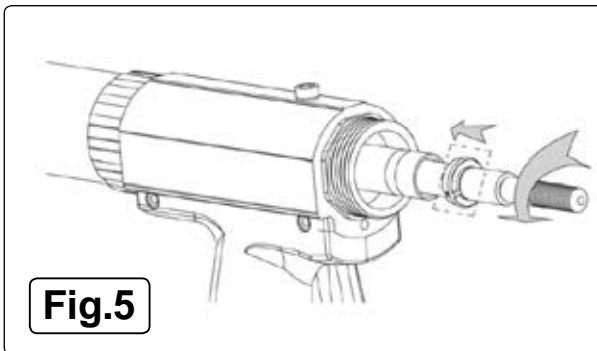

Fig.5
- 5.1.4. Push back the sliding sleeve and unscrew the mandrel, fig.5.